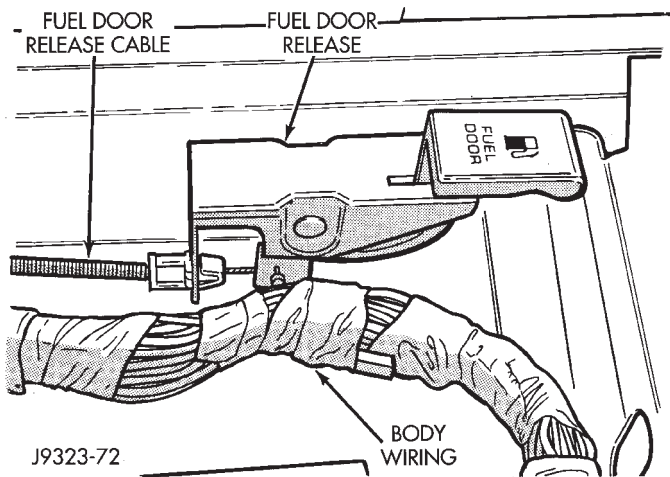

Fig. 40 Fuel Door Lever
- (1) Remove left lower B-pillar trim panel.
- (2) Remove rear seats.
- (3) Remove left rear quarter trim panel.
- (4) Pull up on side of carpeting along rear door sill.
- (5) Disconnect and remove fuel door cable at fuel door lever (Fig. 40).